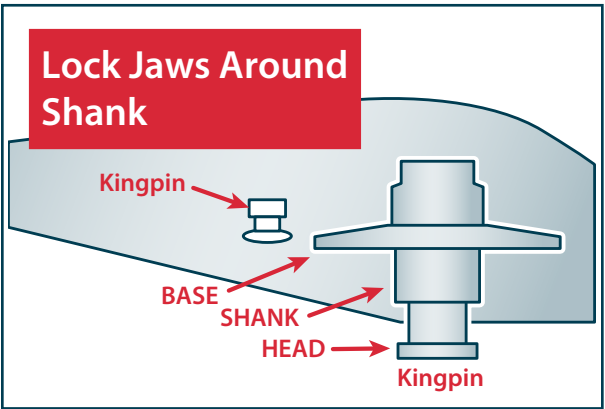

Figure 6.8
- ▲ Locking jaws are around the shank, not the head of kingpin. See Figure 6.8; and